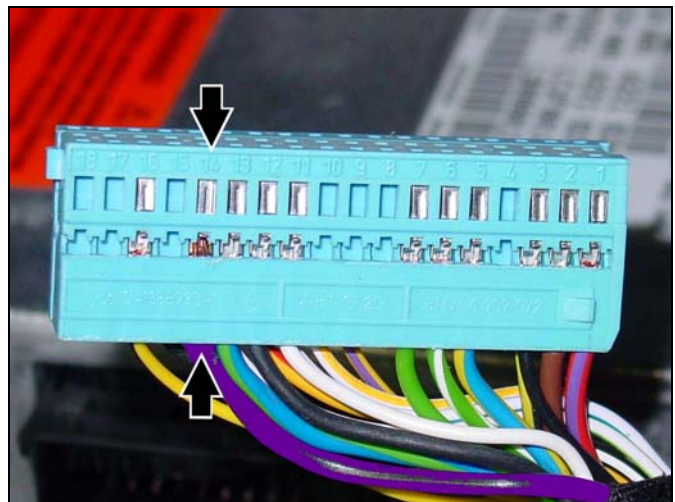

Figure 30
4. If occupied (Arrows, Figure 30), verify the violet-color wire coming from pin slot #14 goes to:
7. Insert the pin into slot #14 of the pin housing of the power supply connector for the Tele Aid control module (Arrows, Figure 30).